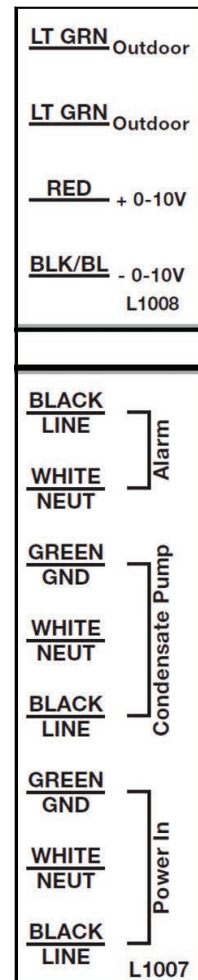

Figure 25 - Field Wiring
1. Connect a building management system or other auxiliary control signal to the terminals marked 0-10 VOLT + and 0-10 VOLT – in the electronics assembly (shown in Figure 25). Caution should be used to ensure that the 0-10 VOLT + connection does not become connected to ground.